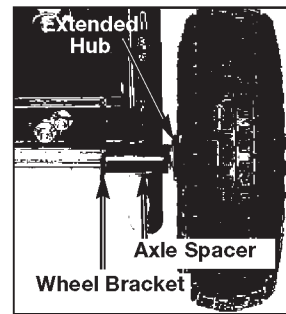

Figure 6
5. Tap the axle cap (5) on the end of the axle (16), using a rubber mallet.
6. Slide one wheel (15) onto the axle with the extended hub pointed away from axle cap. (See Figure 6)